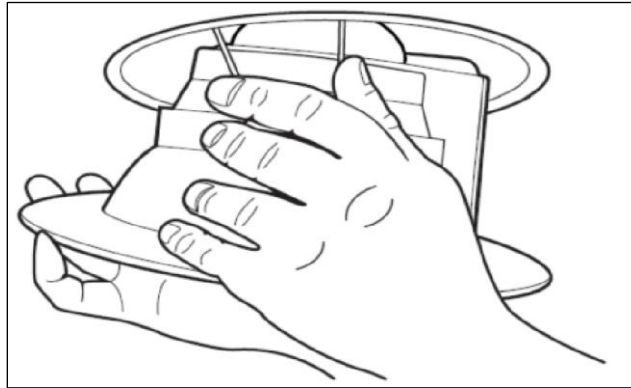

Figure 4
9. Release the torsion springs and gently push module into housing until flush with the ceiling (see *Figure 4*)